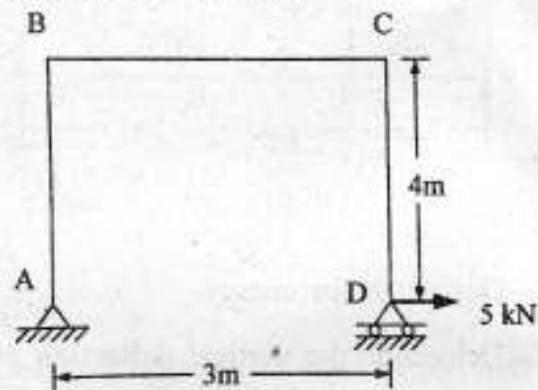

Fig. 6
- (c) Determine the horizontal displacement of the roller end D of the portal frame shown in figure 6. EI is 10000 kNm^2 throughout. Use strain energy method.. 10